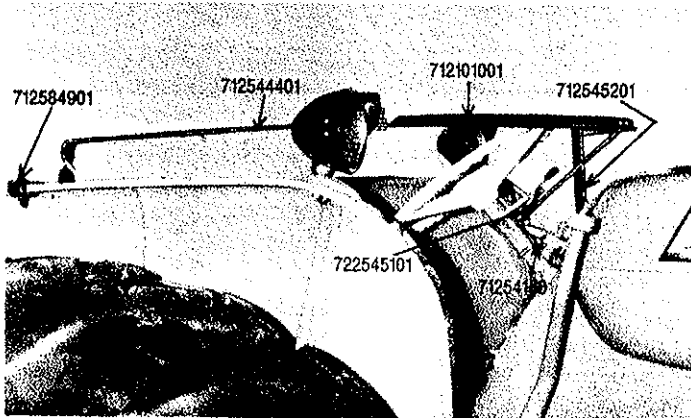

Figure 1
1. Bolt #712541201 pedal guard to right step. See Figures 1 and 4.
2. Install #722545101 mounting bracket on steering column as shown in Figures 1, 2, & 6. Loosen clamp that holds gas tank strap and place mounting bracket clear to top of steering column and bolt on with #712541601 strap and U-bolt.
6. Bolt end of side arm to right fender as shown in Figures 1 & 3.